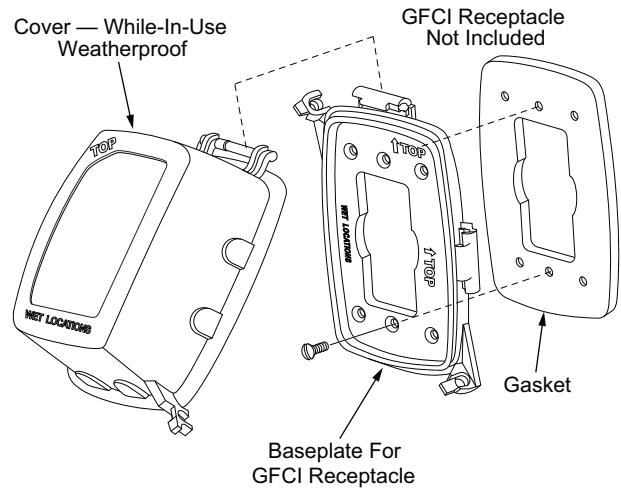

Fig. 31 — Weatherproof Cover Installation
4. Mount the weatherproof cover to the backing plate as shown in Fig. 31.